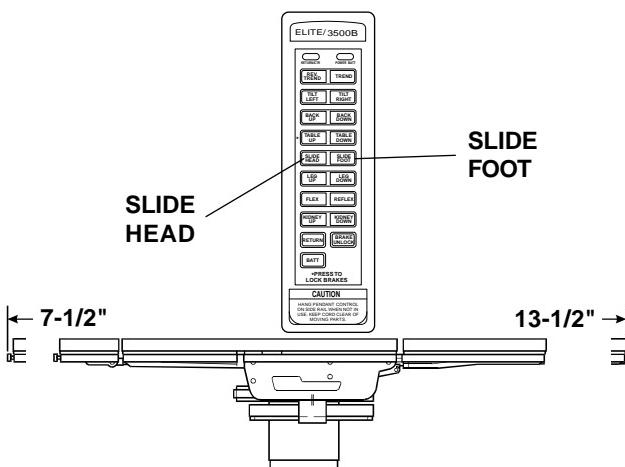

Figure 3-11. Top Slide
**f. Top Slide.** To move the table top toward the head end, press the SLIDE HEAD button. From center position, the top will slide up to 7-1/2". See figure 3-11.